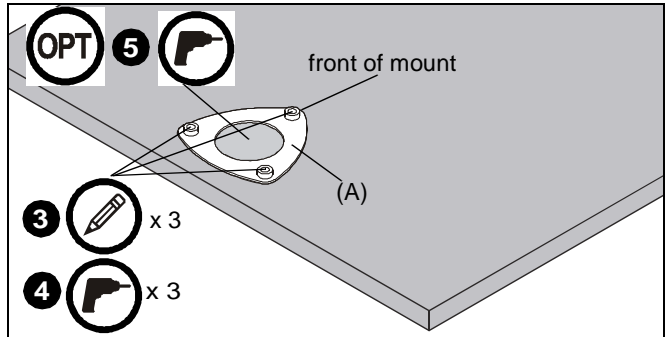

Figure 2
4. Drill three 5/16" holes at locations marked in Step 3. (See Figure 2)
5. (Optional) If cables are going to be routed through the desk, drill an additional hole in the center of the clamping plate that is large enough to account for all cables that will be routed through the desk. (See Figure 2)